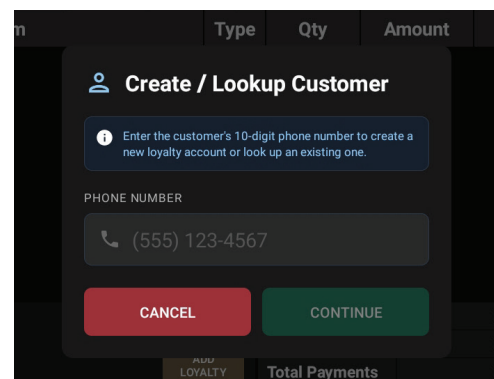

Figure 74
2. The Create/Lookup Customer screen will appear (Figure 74).